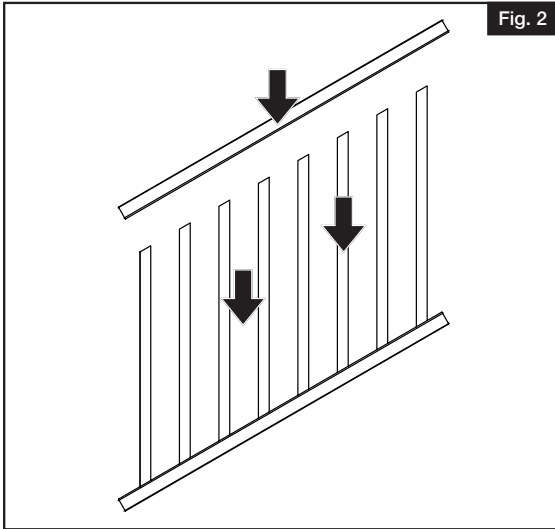

Fig. 2
Place adapter between brackets and posts. Pre-drill and use the longer 3" screws provided with adapters to connect to the post (Fig. 2).
- b. Assemble your stair railing section by snapping balusters into bottom rail (Fig. 2)